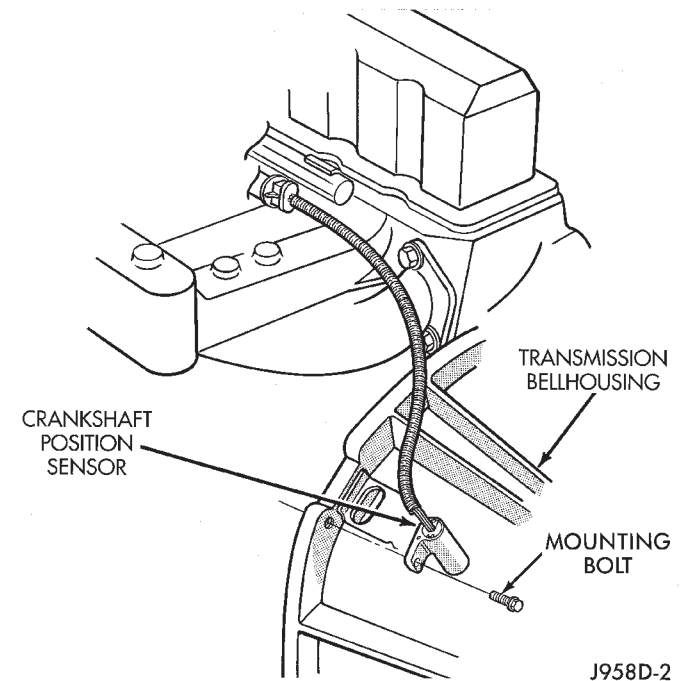

Fig. 6 Crankshaft Position Sensor—4.0L 6-Cylinder Engine—YJ models With Automatic Transmission
On YJ models with a 4.0L 6-cylinder engine and automatic transmission, the sensor is attached with a single bolt (Fig. 6).
- (1) Install the sensor into the access hole on the transmission.
- (2) Install sensor mounting bolt (Fig. 6).
- (3) Tighten sensor mounting bolt to 6-to-8 N·m (50-to-70 in. lbs.) torque.
- (4) Connect the electrical connector to sensor.
- (5) Install the clip to sensor wire harness.
- (6) Install clip over fuel rail mounting stud. Install clip mounting nut.